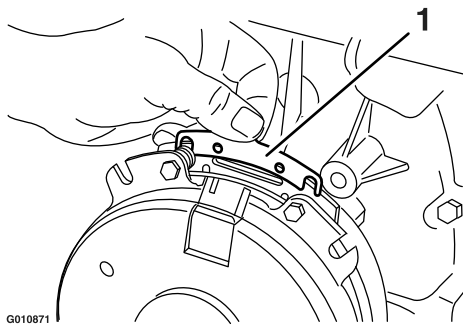

Figure 85
- B. Using needle-nose pliers, or by hand, hold the tab and remove the shim (Figure 85).
Remove any buildup of grass, dirt, or other debris from the engine screen. This helps ensure adequate cooling and correct engine speed and reduces the possibility of overheating and mechanical damage to the engine (Figure 85).